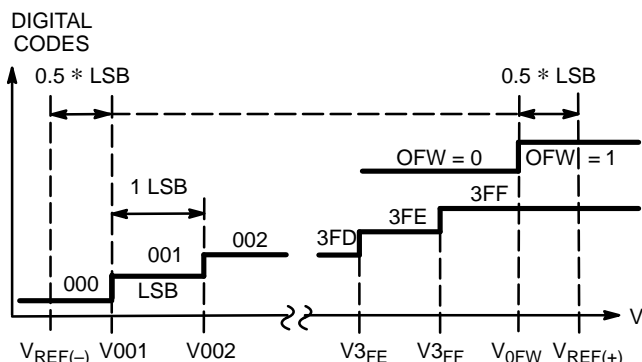
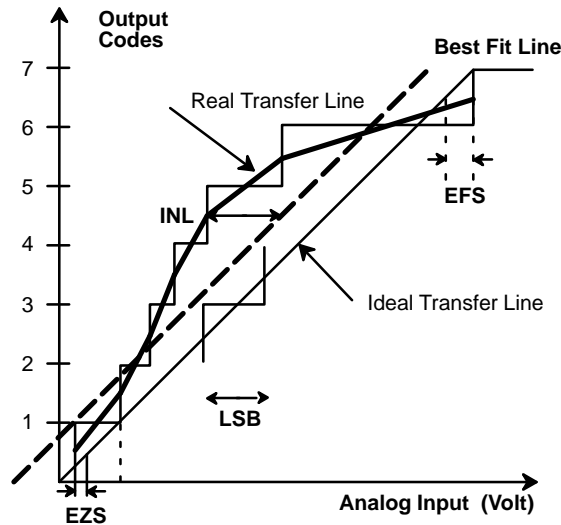

Figure 4. Ideal A/D Transfer Function
Figure 7. INL Error Calculation (Exaggerated for Visualization)
- ² Tester measures code transition voltages by dithering the voltage of the analog input (V_{IN}). The difference between the measured code width and the ideal value (V_{REF}/1024) is the DNL error (see Figure 4.). The INL error is the maximum distance (in LSBs) from the best fit line to any transition voltage (See Figure 7.).
The transfer function for an ideal A/D converter is shown in Figure 4.
Figure 7. gives a visual definition of the INL error. The chart shows a 3 bit converter transfer curve with greatly exaggerated DNL errors to show the deviation of the real transfer curve from the ideal one.